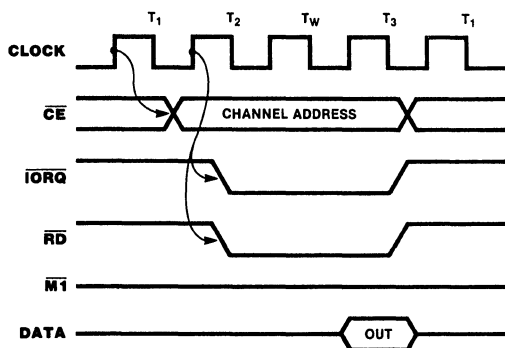

Figure 5. Read Cycle
**Read Cycle.** The timing signals generated by a Z80 CPU input instruction to read a Data or Status byte from the Z80 DART are illustrated in Figure 5.